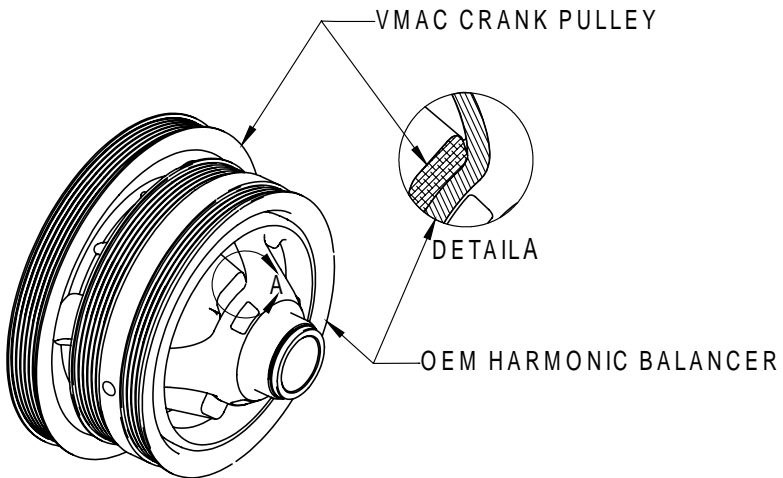

Figure 4.2
- Rotate the VR crankshaft pulley counterclockwise until the lugs on the back of the pulley are tight against the sides of the OEM pulley lugs (Figure 4.2) and tighten the crankshaft pulley bolt sufficiently to hold the pulley in position